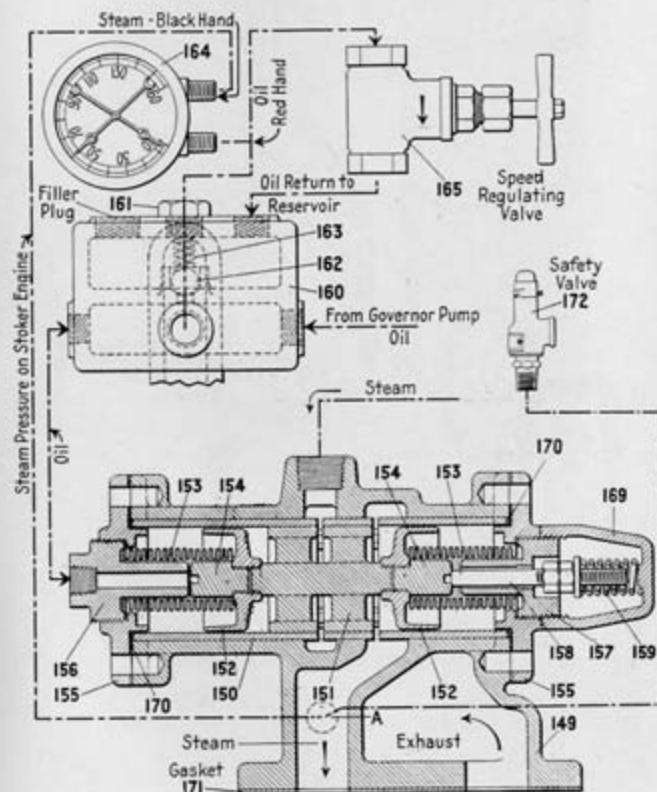
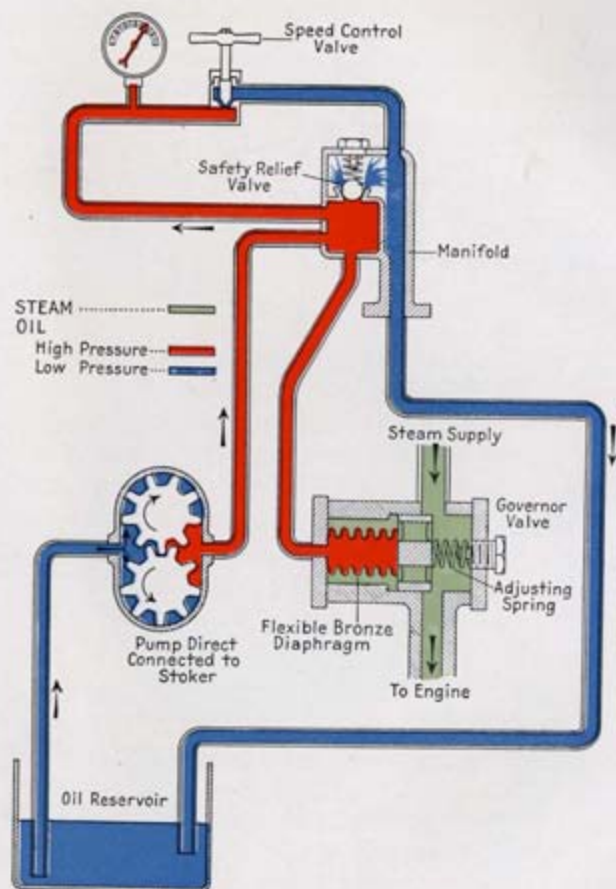

Fig. 10—The Governor Valve and Appurtenances
Fig. 11—Diagram showing the principle of the governor mechanism. For details as actually constructed, see Figure 10.
The governor valve is actuated by the changing pressures set up in a column of oil by the changing speeds of a gear pump directly connected to the stoker. Figure 11 is arranged to show only the **principle of operation**, the actual details of the valve being shown by Figure 10.
Referring to Figure 11 it is clear that if the stoker and pump were running and the Speed Regulating Valve were **wide open**, the oil would be pumped from the oil reservoir up through the manifold and back to the reservoir **without any pressure being developed**. Under such conditions the adjusting spring of the governor valve would keep the valve in a fully open position, allowing steam to pass freely to the stoker engine.
If, under such a condition, the Speed Regulating Valve be gradually closed, a point will soon be reached where the discharge from the pump cannot easily pass the valve seat which will result in setting up pressure as indicated in red on Figure 11. As soon as pressure develops, the flexible bronze diaphragm stretches until the compression of the adjusting spring just balances the pressure on the diaphragm thus throttling down the steam to the engine. If the Speed Regulating Valve be closed still further, more
pressure will be set up in the lines colored red in Figure 11 and the valve be closed further and steam cut down again.
However, as soon as the pump slows down (or in other words, if the stoker slows down) then the pressure relaxes in the red lines of Figure 11 and the spring in the governor valve immediately acts to push the valve open and admit more steam to the engine. The engine at once increases its speed but cannot increase beyond the desired rate for as it increases speed, the pump again raises the oil pressure which acts to move the governor valve against the spring and gradually cut down the steam.
The spring (159) should be adjusted so that the valve will be forced to its open position as illustrated by Figure 10, but only such pressure as is necessary to accomplish this result should be used. If the spring is set up to a higher compression it requires just that much unnecessary additional oil pressure to move the valve against the spring for control of the steam when the stoker is in operation.